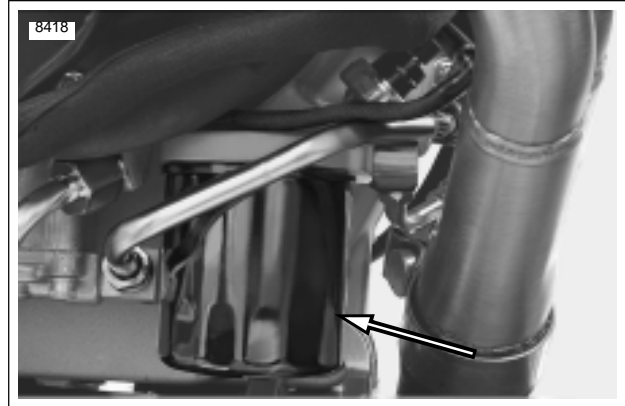

**Figure 1-5. Dipstick Location**
4. See Figure 1-5. Unscrew and remove dipstick and note oil level.
3. See Figure 1-5. Unscrew and remove dipstick from oil fill hole on top of oil tank/swingarm.